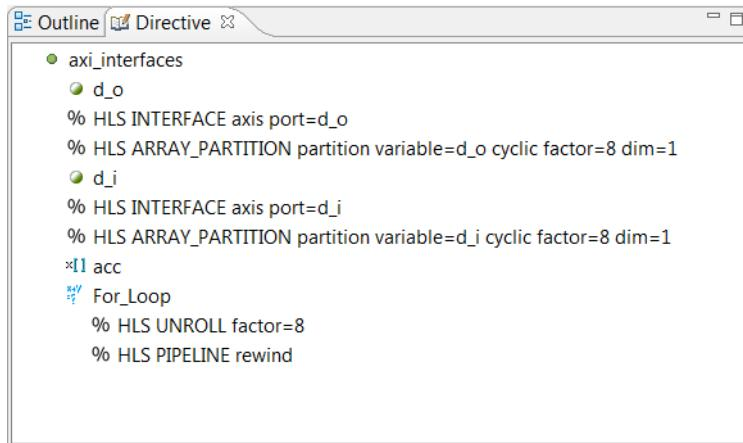

Figure 4-33: Directives Tab for Lab 4 Solution1
After performing the above steps, the Directives tab should be as shown in Figure 4-33. Be sure to check all options are correctly applied. If not, double-click the directive to re-open the **Directives Editor**.
- In the performance section of the report, confirm that the for-loop processes one sample every clock cycle (Interval 1) with a latency of 3 (and max 4), and that the design has less area than solutions 2, 3, or 4 in Lab 3 (Figure 4-33).